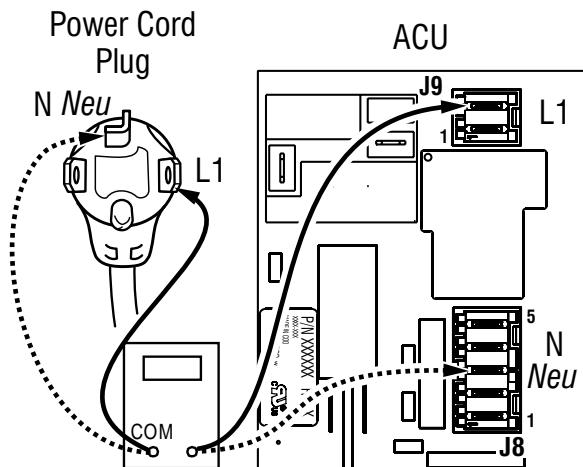

Figure 3 - Plug-to-terminal connections for electric dryer
4. With an ohmmeter, check the continuity from L1 and N plug terminals of the power cord to the terminals for L1 and N on the ACU. See figure 3.